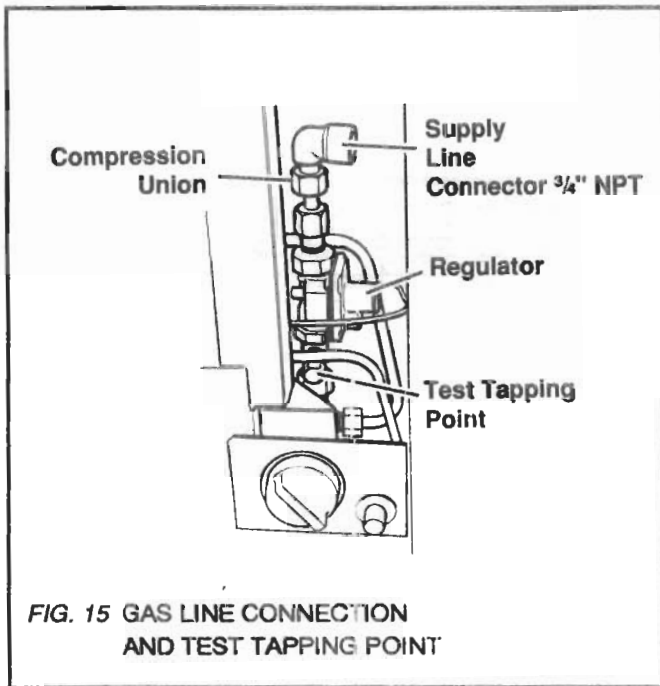

FIG. 15 GAS LINE CONNECTION AND TEST TAPPING POINT
8.2. Route the supply gas line to the inlet connector attached to the regulator inlet (see fig. 15).
The manifold pressure must be between 3.8" w.c. and 4.2" w.c. The manifold pressure should be checked at the pressure test point which is located immediately downstream of the regulator (see fig. 15). The pressure check should be made with the appliance burning and the control set at position 3.